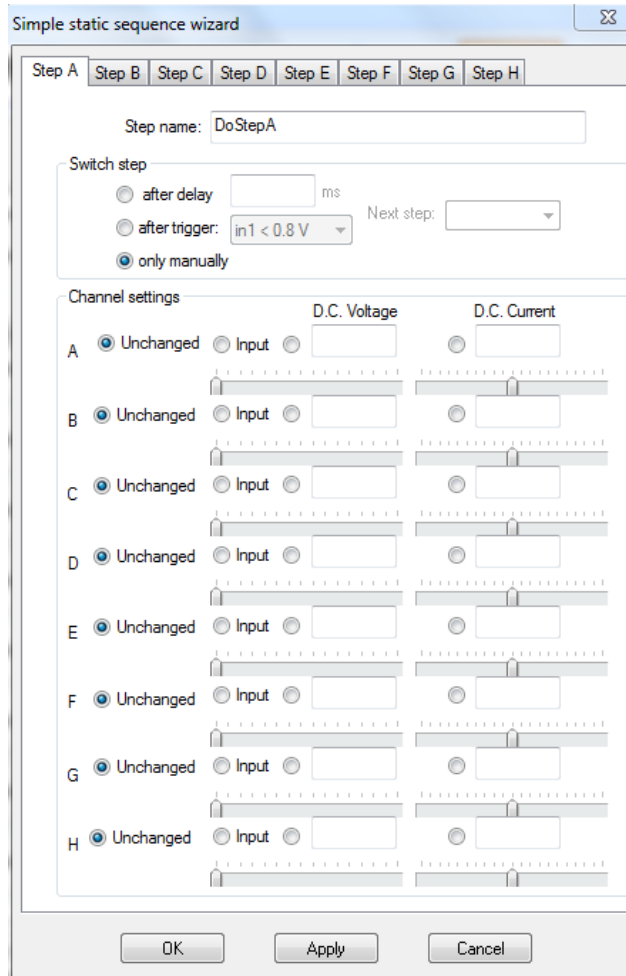

Figure 4. Simple Sequence Wizard Window.
2. Select **Tools > Simple sequence wizard**. The Wizard interfaces contain tabs for each step (**Figure 4**). When you launch a wizard the settings for Step A will be displayed. Click on any step's tab to view that step's settings.